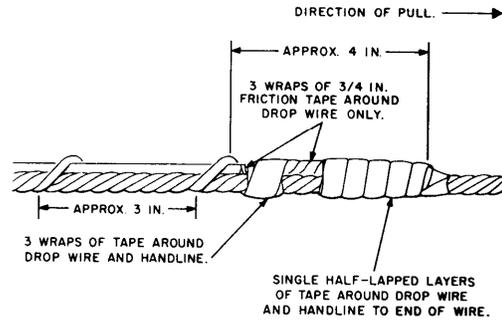

Fig. 7 - Alternate Tie to Prevent Snagging
- (g) Tape the drop wire to the handline as shown in Fig. 7. The handline must be long enough so both ends are accessible from the ground during the entire raising operation.
- (2) Place the drop wire as covered in paragraph 3.01 (a) through (d) and raise the wire at the pole of strand end of the span as outlined in Steps (3), (4), (5) and (6).
- (3) With the drop wire crossing the roadway and resting flat on the ground, remove sufficient wire from drop wire dispenser to reach the terminating point.
- (4) Cut and tape the drop wire to the handline as shown in Fig. 7. The handline must be long enough so both ends are accessible from the ground during the entire raising operation.
- (c) Estimate and pace off the amount of wire to be placed. Cut the drop wire and tape it to the handline (Fig. 7).